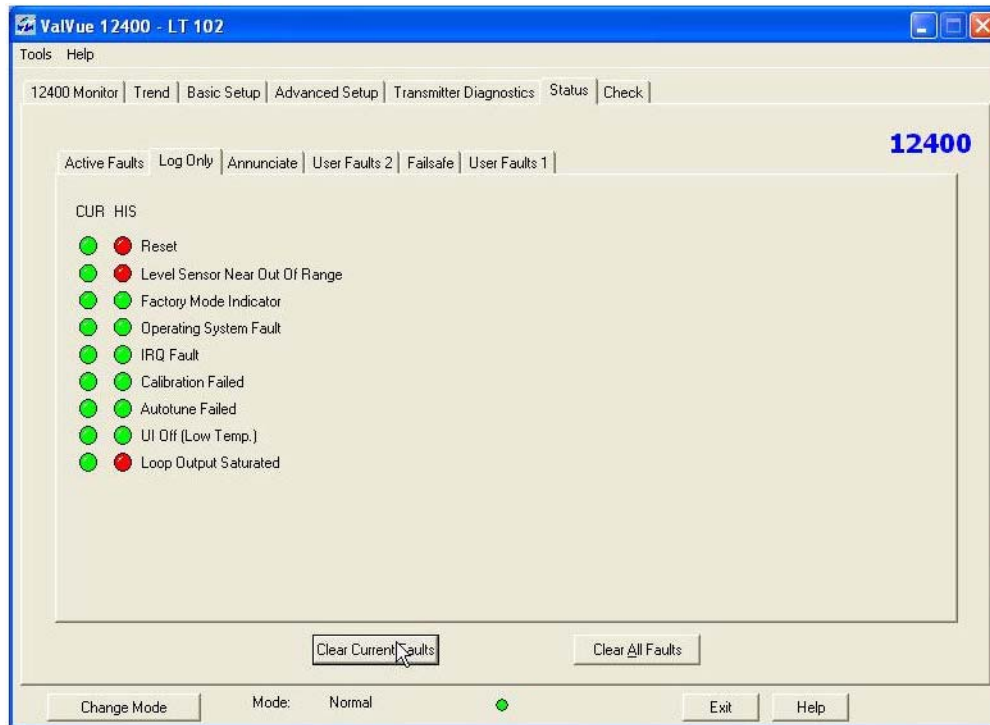

Figure 275 Clearing Current Faults
- Click **Clear Current Faults** (Figure 275).